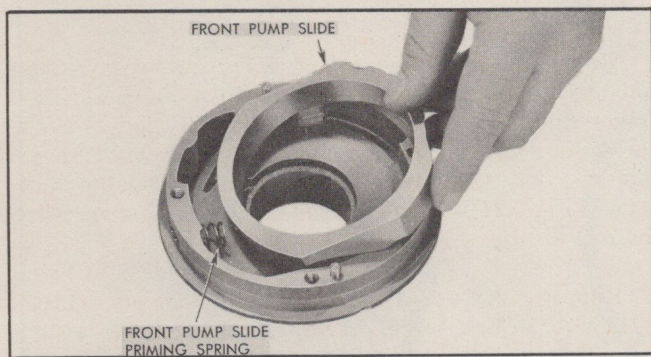

Fig. 24 Removing Front Pump Slide
7. Remove slide and priming spring by first lifting out end opposite spring (Fig. 24).